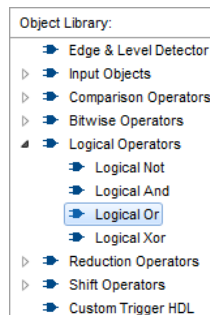

Figure 19. Select the Logical Or operator from the Object Library window and drag this into the editing window.
- We now need to add the necessary logical operators to our circuit. We will need an OR gate as well as three edge level detectors. To access the OR gate, expand Logical Operators in the Object Library and select Logical Or, as in Figure 19. Then drag and drop the operator into the editing window.